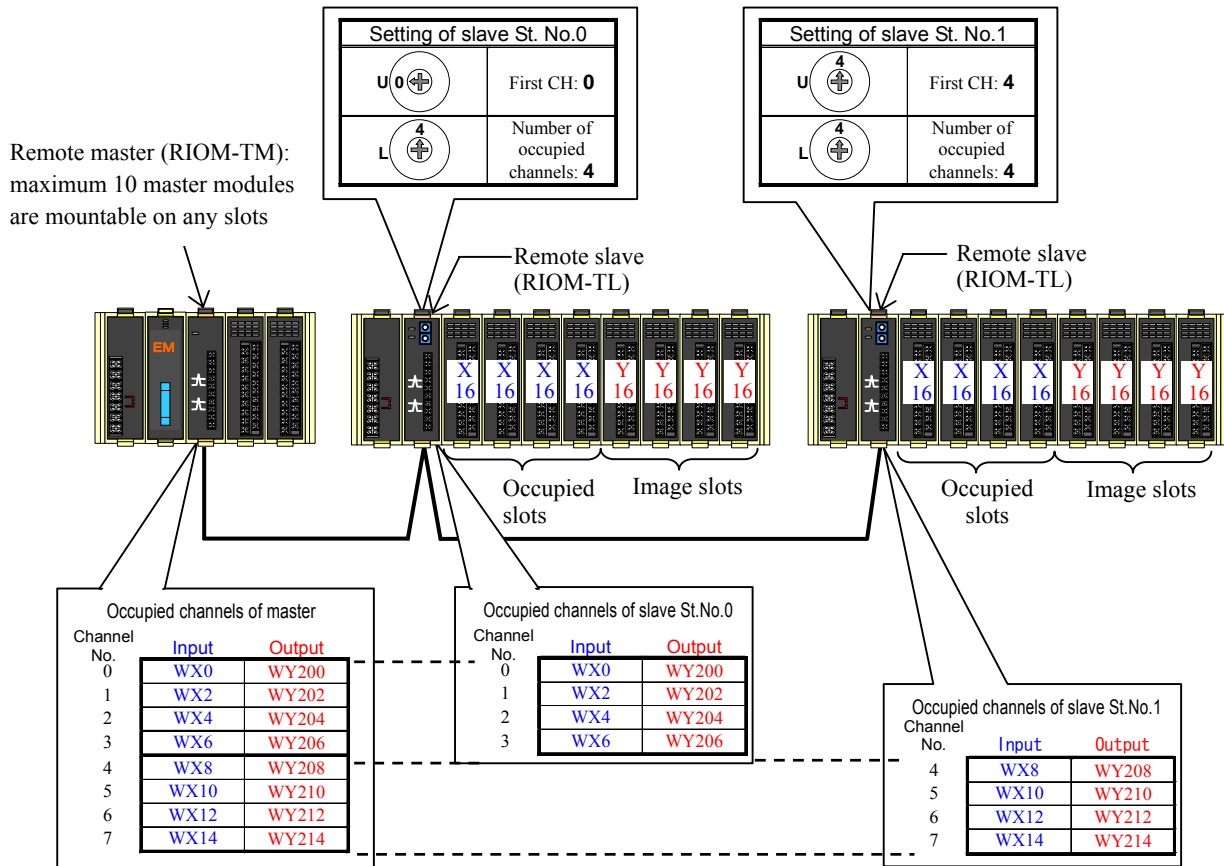
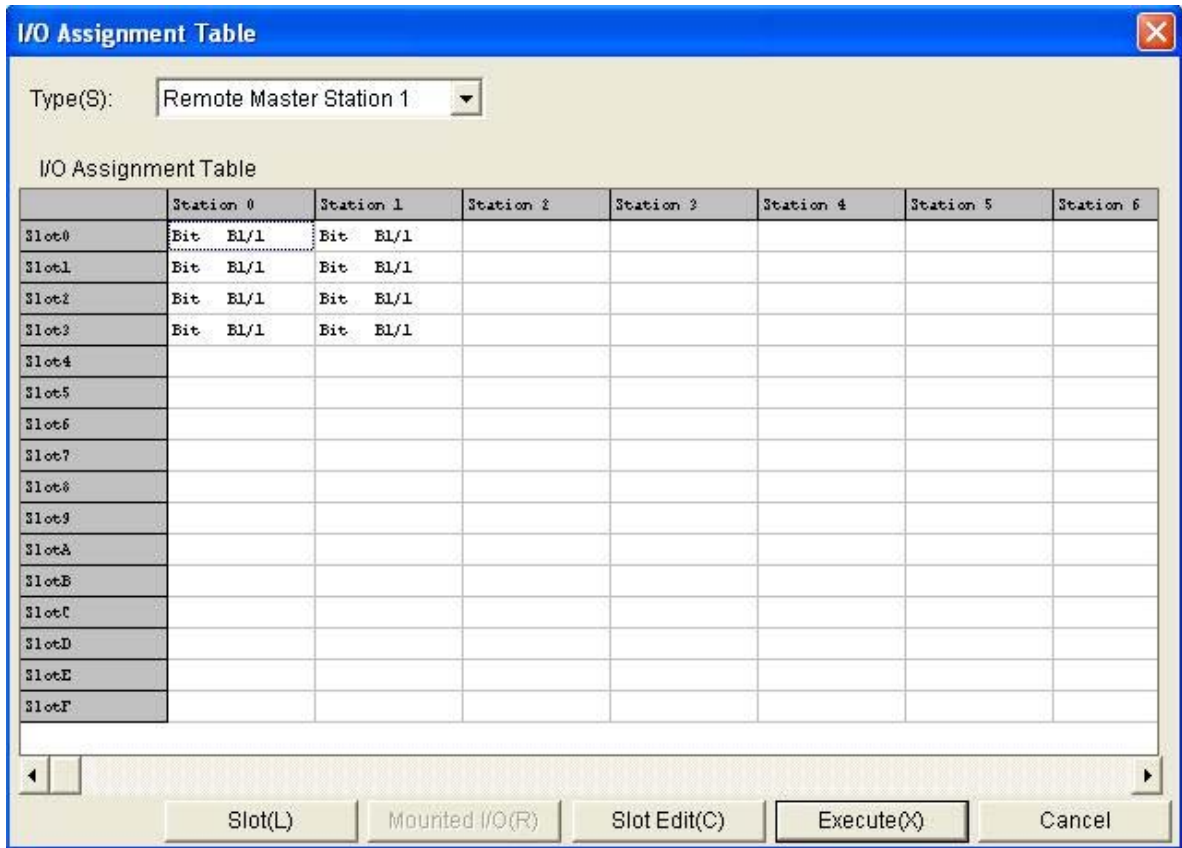
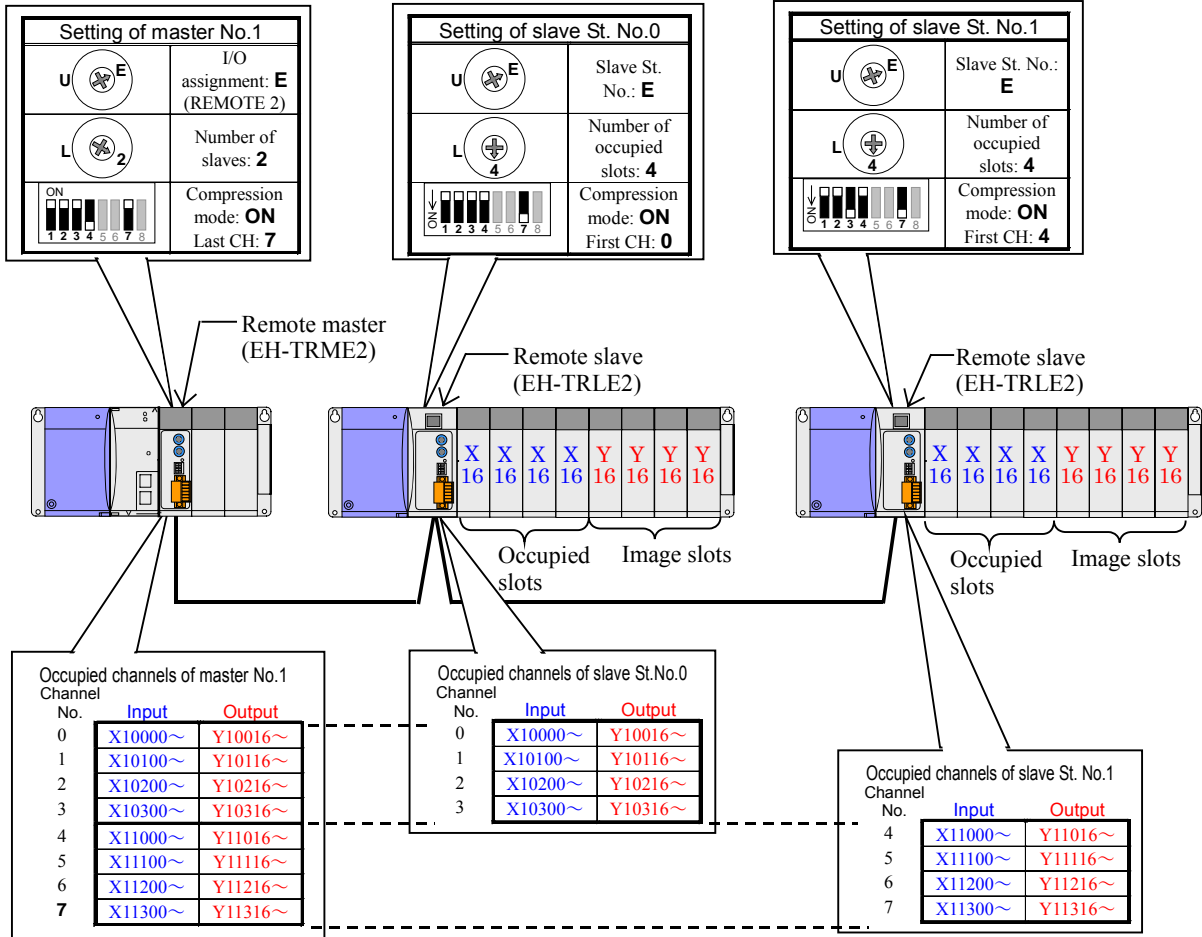

Figure 4.6.4 System configuration example of the EM/EM-II series (Using image slot)
Figure 4.6.5 I/O assignment example of remote I/O
Figure 4.6.6 System configuration example after the replacement to EH-150 (Using image slot)
This system configuration example is shown in Figure 4.6.4. I/O assignment of this system is shown in Figure 4.6.5. Figure 4.6.6 shows the system configuration example replaced to EH-150.
Figure 4.6.6 is an example of replacing all of master and slave modules with the EH-150 series. It is also possible to leave all or partially slave modules like the EM/EM-II series in order to postpone the wiring work of slaves. In this case, please set rotary switch (upper) "E" for master module and all slave modules in order to match communication protocol. Please turn off high-speed refresh mode (HS) of a front DIP switch of the master module and the slave modules, turn on communication mode (MODE) of a front DIP switch of them.
(Assignment of Figure 4.6.4 configuration example by Ladder editor)